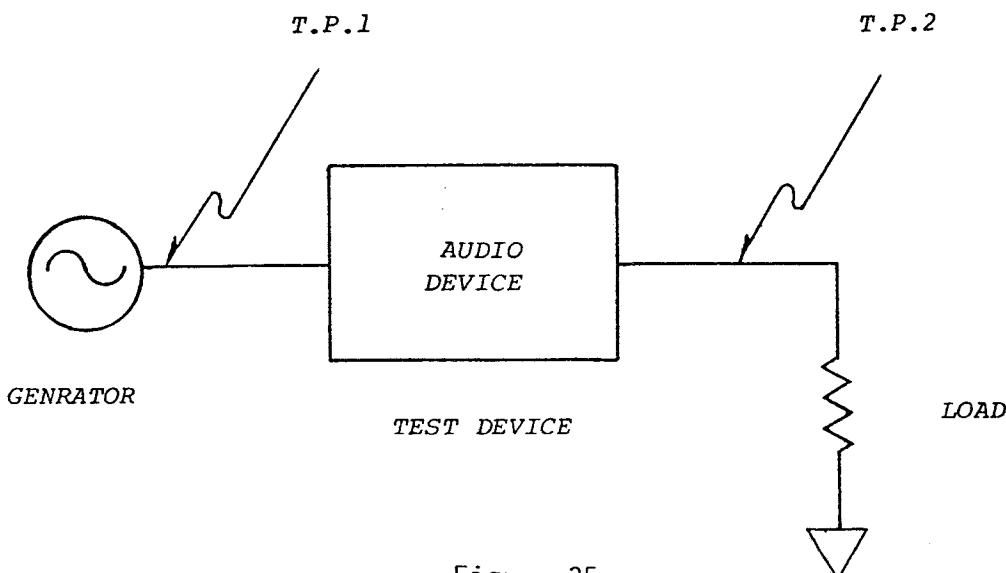

Figure 35
1. Set up the equipment as shown in Fig. 35 below.